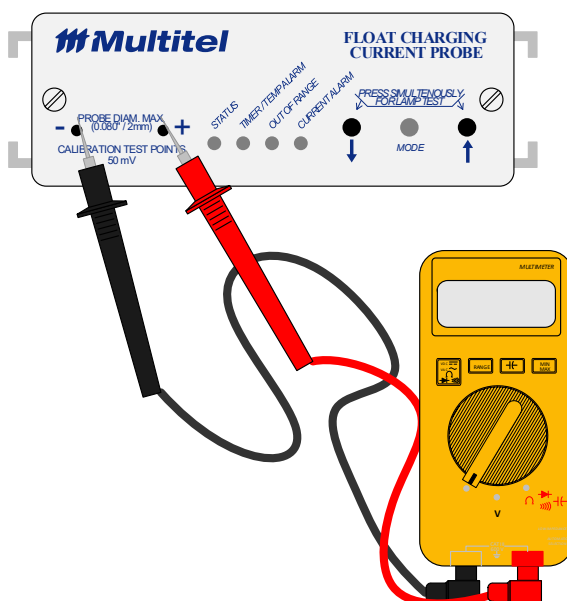

Figure 6: Open Circuit Value with DVM
1. Use a DVM capable of reading mV down to 0.1mV. Insert the DVM test probe in the calibration test point located on the FCCP front panel (see Figure 6 below).
8. Press the MODE button six (6) time consecutively to exit the programming mode. Note that all the LEDs should turn off.